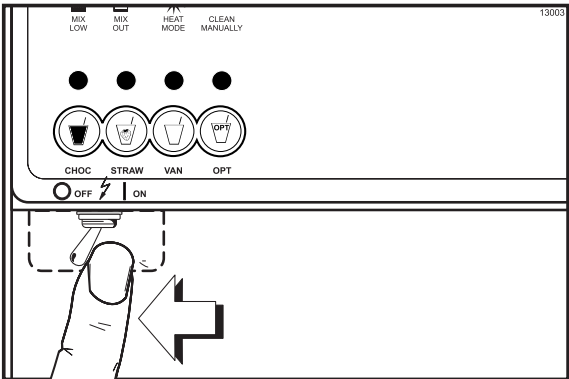

Figure 78
**Be sure the power switch is in the OFF position.** Failure to follow this instruction may result in severe personal injury from hazardous moving parts. (See Figure 78.)